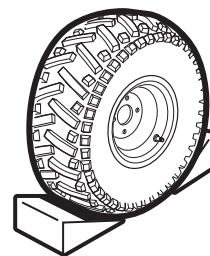

Fig. 2 Wheel Chocks
1. Chock the rear wheels to keep the vehicle from rolling backward (Ref. Fig. 2).
1. Chock the front wheels to keep the vehicle from rolling forward (Ref. Fig. 2).